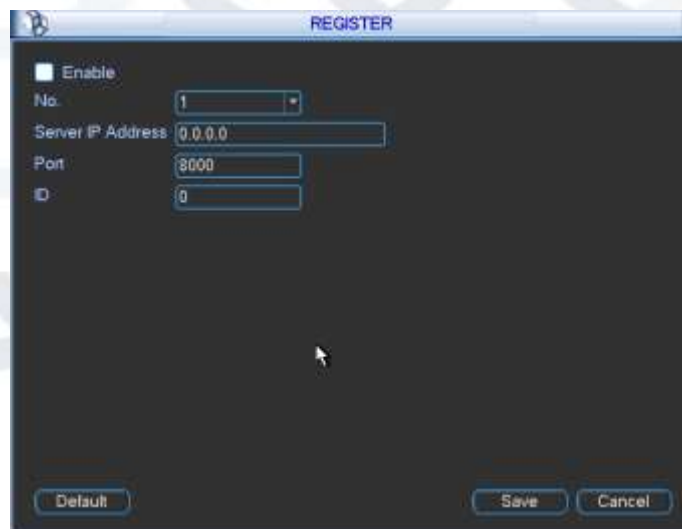

Figure 5-11
1) The setup interface is shown as in Figure 5-11.
3) Now you can add device. Please do not input default port number such as the TCP port in the mapping port number. The device ID here shall be the same with the ID you input in Figure 5-11. Click Add button to complete the setup.